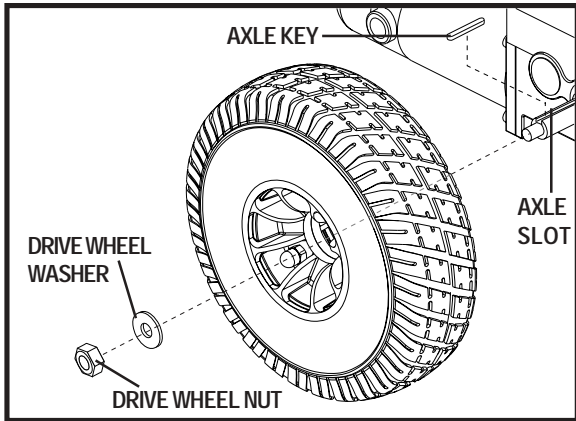

Figure 26. Jazzy 1107 Drive Wheel
4. Remove the drive wheel nut and washer from the axle. See figure 26.